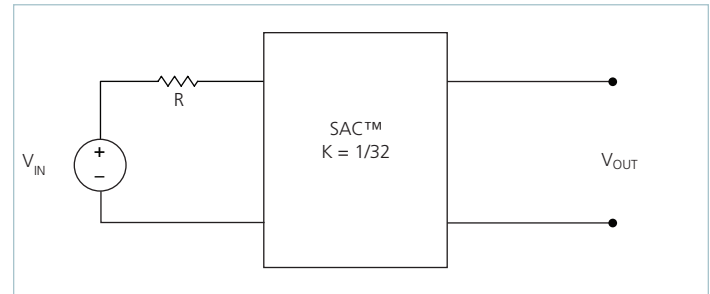

Figure 18 —  $K = 1/32$  Sine Amplitude Converter™ with series input resistor
The use of DC voltage transformation provides additional interesting attributes. Assuming that  $R_{OUT} = 0\Omega$  and  $I_Q = 0A$ , Eq. (3) now becomes Eq. (1) and is essentially load independent, resistor  $R$  is now placed in series with  $V_{IN}$  as shown in Figure 18.
Assuming that  $R = 1\Omega$ , the effective R as seen from the secondary side is  $0.98m\Omega$ , with  $K = 1/32$  as shown in Figure 18.